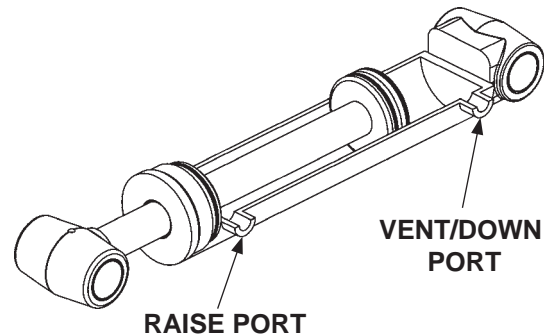

FIG. 34-3
3. Check the hydraulic cylinder. With the platform on the ground, remove the hydraulic line from the vent/down port of the cylinder (**FIG. 34-3**). Raise the platform even with the bed. Allow pump motor to run two seconds more while you watch for hydraulic fluid at the vent/down port. A few drops of hydraulic fluid escaping the vent/down port is normal; however, if it streams from the vent/down port, piston seals are worn. Replace seals.